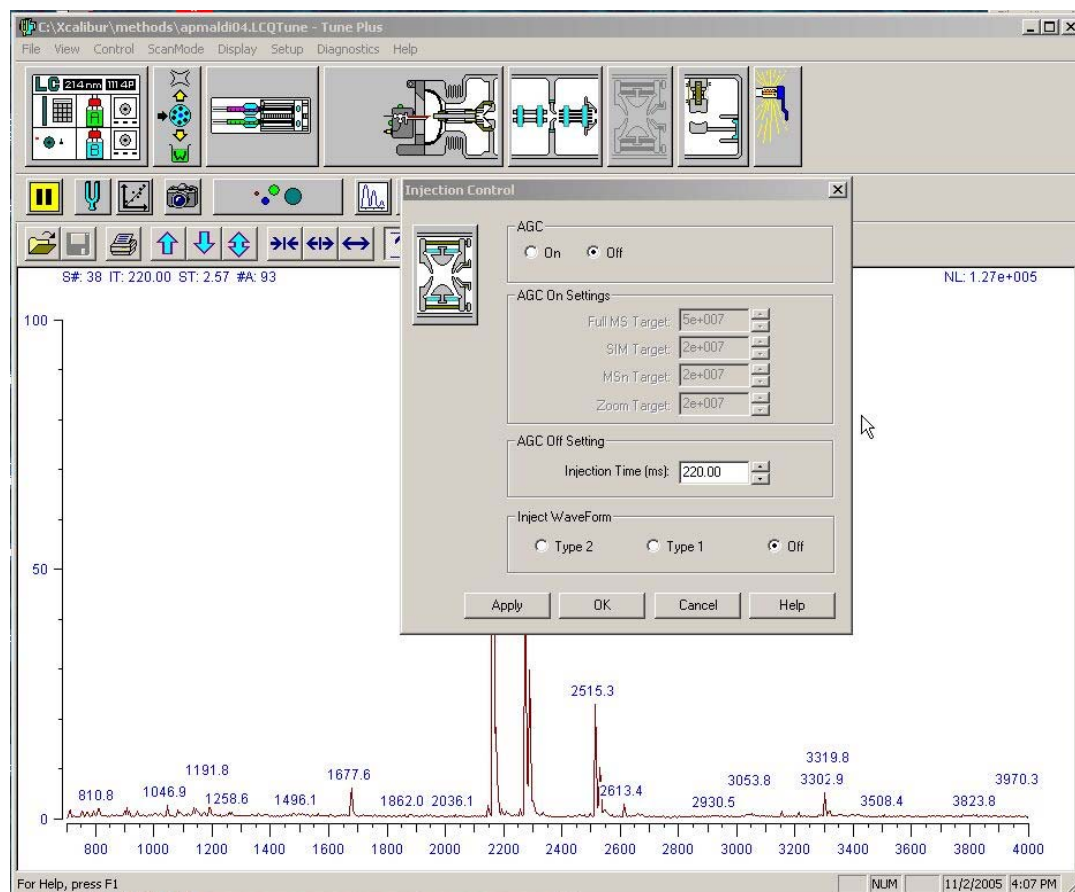

Fig. 7-17 Switch off AGC and set Injection Time to 220ms or even more
- The AP/MALDI PDF source typically generates a much weaker ion current compared with Electrospray. Therefore, for the highest sensitivity, switch Automatic Gain Control (AGC) off and choose Injection time manually around 220ms. Sometimes you may have to increase the Injection Time up to 500-1000 ms. If the sample concentration is too high (NL parameter in the spectrum reaches 1e7 value or above), it is your responsibility to decrease Injection Time to avoid the trap saturation (Fig. 7-17).